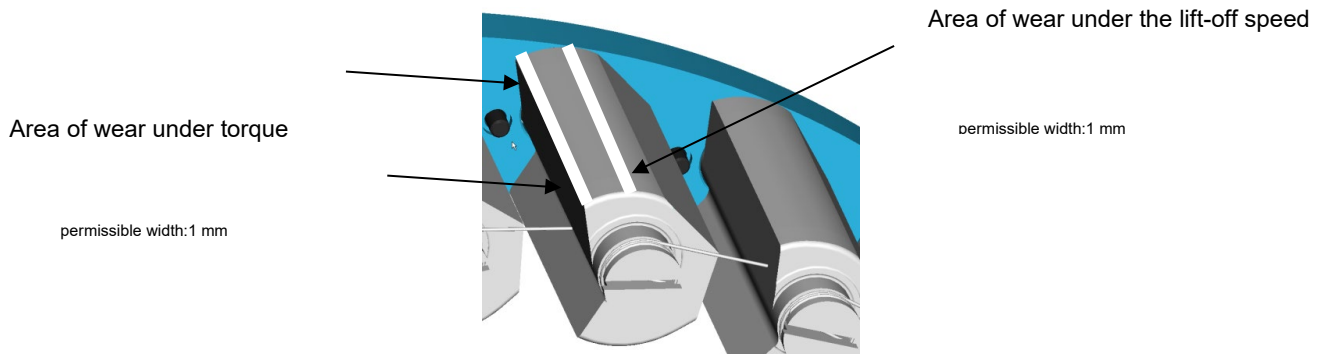

Figure 7: wear zone
- Pre-clean the outer race (1) and inner race including cage (8) with a petroleum-based industrial cleaning agent and degrease with an acetone-based cleaning agent.
- Maximum width of the wear facet on the clamp bodies (see Figure 7)